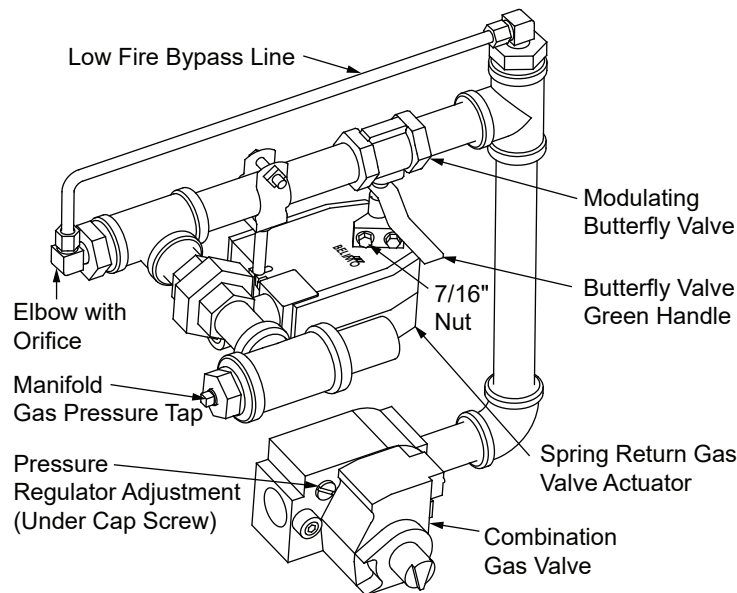

Figure 3: RE4400DS HTD Valve Train Assembly
7. Check the modulation tracking for 400 MBH units only (for 250 MBH and 350 MBH units, just check the manifold pressure of respective firing rate) by modulating the burner to 4 Volts DC signal (heating signal of 33%). The manifold pressure should be approximately 0.8" to 0.9" W.C. If not, loosen the 7/16" nut on the Modulating Gas Valve Actuator and make necessary adjustments with the green handle of the butterfly valve (see Figure 3). Retighten the nuts and modulate the burner to low fire (2 Volts DC) then back up to 4 Volts DC again to check the adjustments. If the manifold pressure is not as specified, repeat step 7.